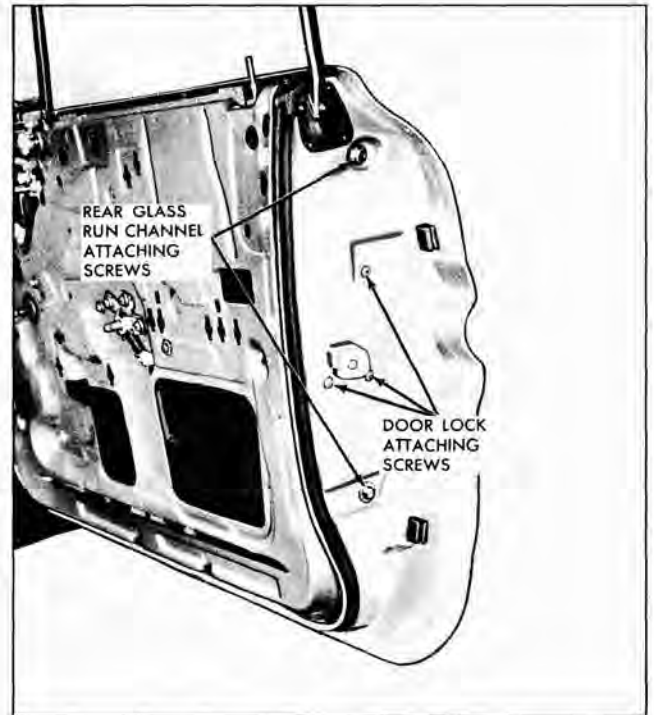

Fig. 3-23 Front Door Lock
4. Remove door lock attaching screws from lock pillar facing of door and remove lock assembly from door (Fig. 3-23).